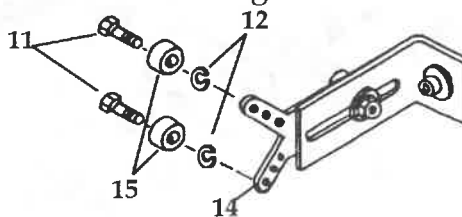

Figure 6
6. Slide shoulder screws (11) through ball bearings (15) and lock washer (12), then thread into the Y-bracket support (14), as illustrated in Figure 6.